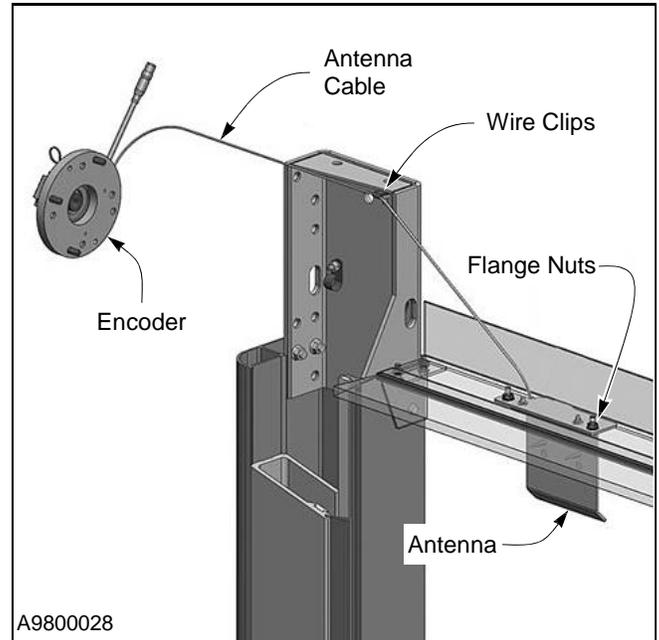

Figure 17
- Route the antenna cable over the side column to the encoder. (See Figure 17)